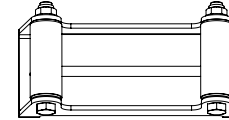

Figure 9
8. Equipping winch with a roller fairlead will substantially reduce wear on wire rope during angle pulls, because rollers eliminate heavy rubbing and abrasion to wire rope. (See Figure 9).